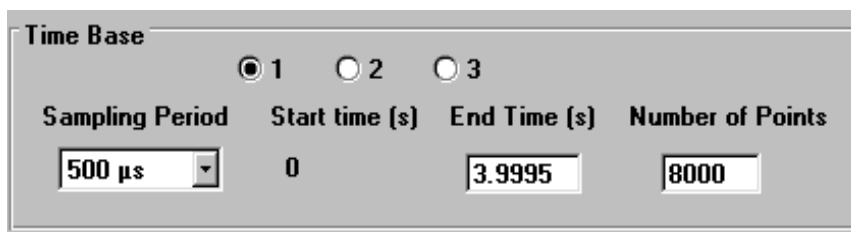

Figure 155 : "time base" area.
- Into the 'time base area' (Figure 155) the **Number of points** and **End time** parameters can be modified manually but notice that they are linked together. **Sampling period** range is 10 μ s to 10s.